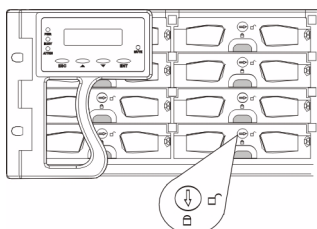

Figure 6.3 Drive Tray Key-Lock Rotation
4. Close the front flap on the drive tray. Make sure the front flap is closed properly to ensure that the SATA connector at the back of the drive tray is firmly connected to the corresponding connector on the mid-plane board. If the front flap is not closed properly, then the connection between the HDD and the subsystem will not be secure. To lock the flap in place, turn the key-lock until the groove on its face is in a vertical orientation. (See *Figure 6.3*)